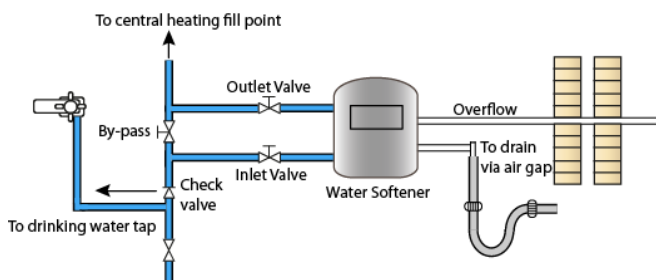

Fig 1.
Manufacturers' instructions and guidelines must be followed when installing a water softener; however an example is shown below (Fig1).
- ▶ By means of utilising the general bypass valve which is required at the water softener. (Fig 1.)